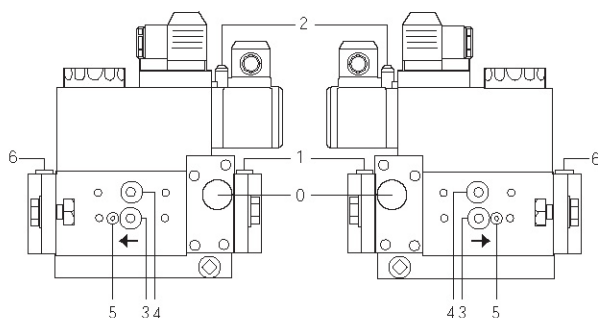
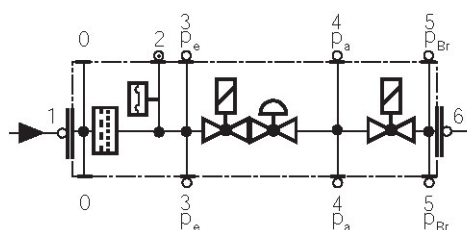

Fig. 20
Fig. 21
- Change the filter if the pressure difference between pressure connection 1 and 3 (Fig. 20-Fig. 21) is  $\Delta p > 10$  mbar.
- Change the filter if the pressure difference between pressure connection 1 and 3 (Fig. 20-Fig. 21) is twice as high compared to the last check.